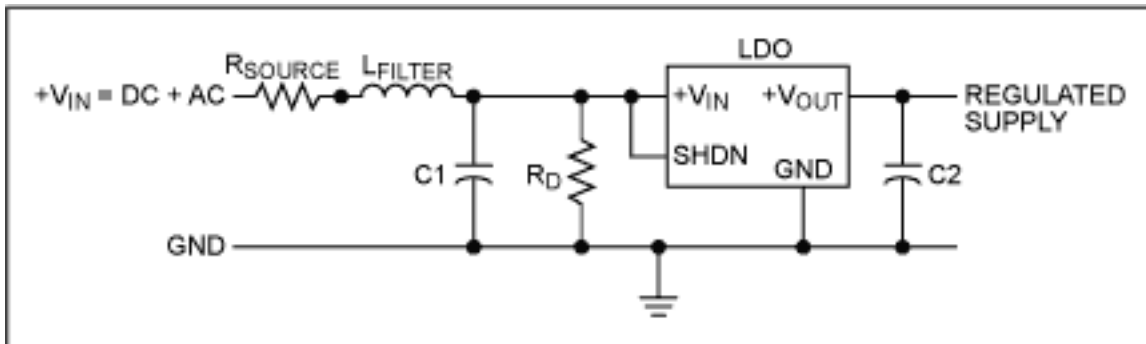

Figure 4b. Illustrating the position of damping resistor.
**Figure 4b** shows the damping resistor and its relationship with the noisy incoming supply source resistance.